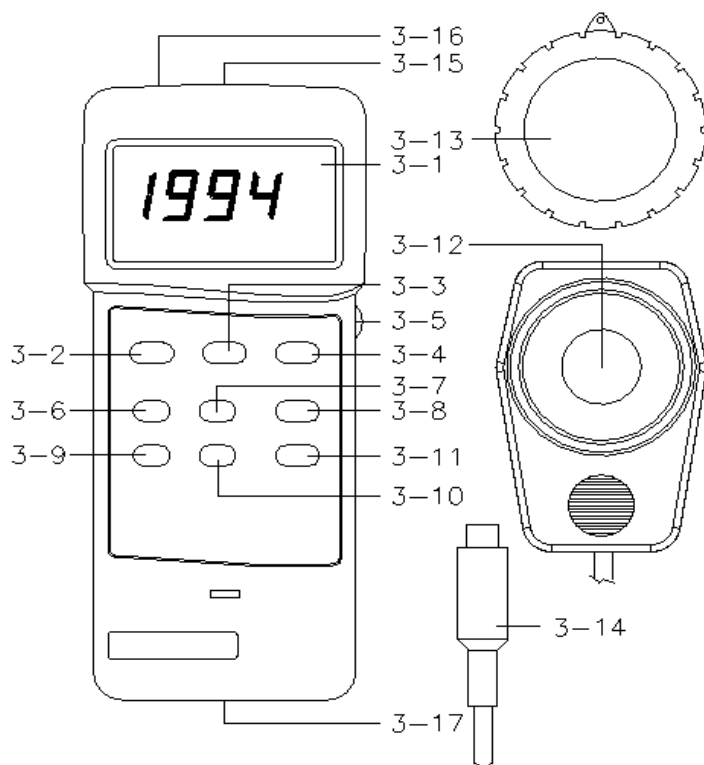

Fig. 1
- (1) Push the "Power Off/On Button"(3-2, Fig. 1) to switch the instrument on.
- (2) Zero Adjust Procedures
- \* Cover the Light Sensor(3-12, Fig. 1) using the Sensor Cover provided (3-13, Fig. 1).
- \* Slide the "Range Switch"(3-11, Fig. 1) to the 2000 LUX position.
- \* Push the "Zero Button"(3-9, Fig. 1), then display will show zero values.
- (2) Select the desired measuring unit by pressing the "LUX/FC Button"(3-4, Fig. 1). The display will indicate the selected unit of "LUX" or "Ft-cd".
- (3) Determine the lighting type (Daylight, Tungsten, Fluorescent or Mercury lamp) by pressing the "Light Source Select Button"(3-8, Fig. 1)
- (4) Select the max. range using the "Range Switch"(3-11, Fig. 1).
- (5) Position the Light Sensor(3-12, Fig. 1) directly under the light source.
- (6) \* On the 20000 LUX range, the last digit will be shown on the lower line of LCD display.
(7) Data Hold :
- \* During measurement, pushing the "Data Hold Button"(3-3, Fig. 1) will hold the display values & the LCD will show the "D.H" symbol.
(8) Relative % light measurement :
- \* During measurement, press the "% Button"(3-10, Fig. 1). The current measured value will be indicated as " 100 % ".
- \* To de-activated this feature, Press the "% Button" (3-10, Fig. 1) again
- \* The DATA RECORD function displays the maximum, minimum and average readings. To start the DATA RECORD function, press the "Record Button"(3-6, Fig. 1) once. "REC" marker will appear on the LCD display.
- (a) Push the "CALL Button"(3-7, Fig. 1) once, then the "Max" symbol with the maximum values recorded will appear on the LCD display.
- (d) To de-activate the Data Record function, Press the "Record Button" (3-6, Fig. 1) once again. All associated annunciators will disappear from the display.
**(10) For quick measurement, follow the procedures shown below :**
To de-activate this feature, Select the memory record function during measurement, by pressing the "RECORD" button(3-6, fig.1).
This is achieved by controlling the "LCD Contrast Adjust" pot (3-5, fig. 1).
The instrument features an RS232 output via 3.5 mm Terminal ( 3-13, Fig. 1).